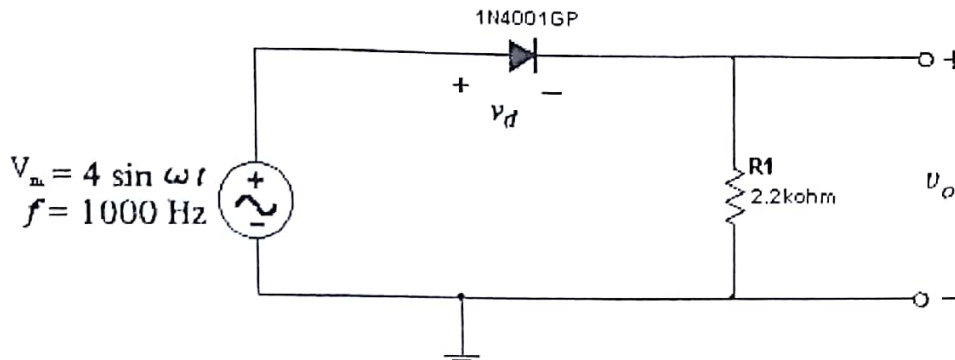

Fig.6: Half-wave Rectifier.
1. Construct the half-wave rectifier circuit shown in Figure 6. Record the measured value of the resistor. Set the function generator to a 1 KHz, $8V_{p-p}$ sinusoidal voltage using the oscilloscope.
3. Determine the theoretical output voltage V_O for the circuit of Figure 6 and sketch its waveform for one full cycle using the same sensitivities employed in step (2). Indicate the maximum and minimum values on the output waveform. Compare the results of step (2) and (3)?
6. Calculate the DC level of the half-wave rectified signal of step (2). Find the percent difference between the measured value (from step 5) and the calculated value.